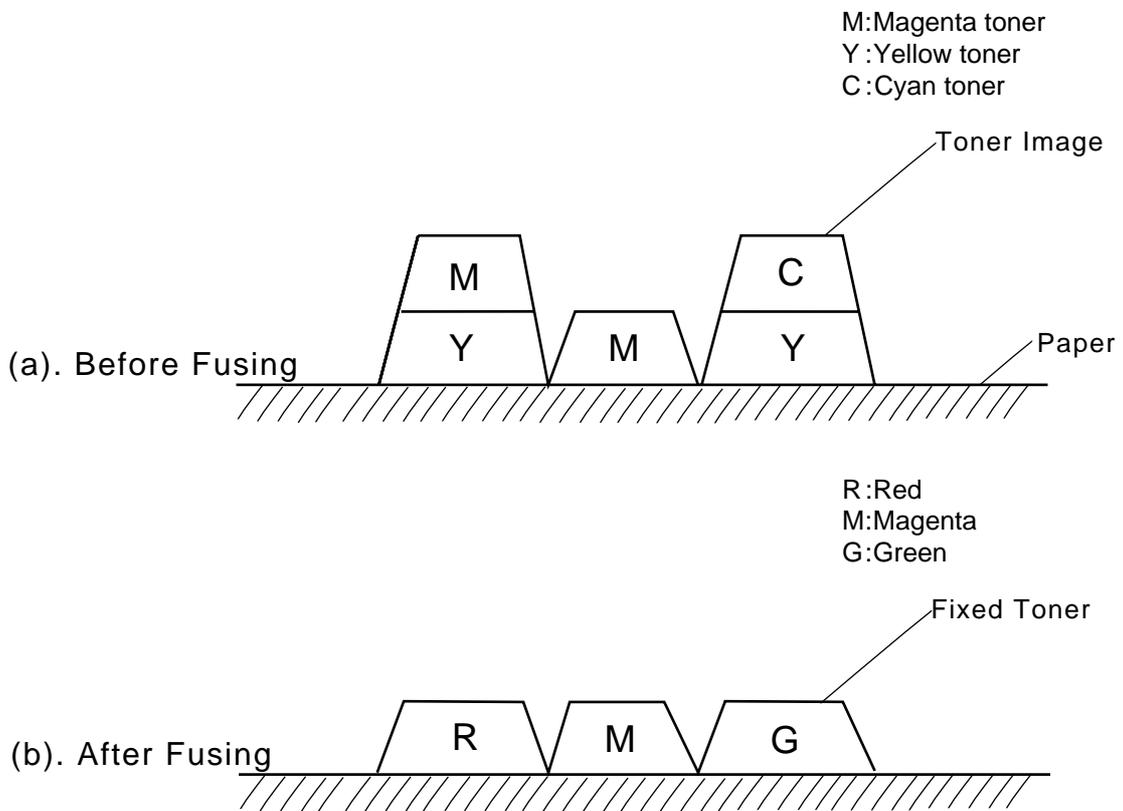

Fig.4-26
(2) Process of Fusing (Refer to Fig.4-26.)
- ① The toner image that has been transferred onto the paper is simply adhered on the paper but not fused yet.
- ② Transported paper passes between the heater roller and back-up roller.
- ③ Each roller is heated up to approx. 150°C, and received approx.200N from the opposite heat roller.
- ④ When the paper carrying the toner images passes between the two heat rollers, the toner images are melted and fused on the transported paper.
- ⑤ The paper carrying the fused image is separated from the heat rollers, and ejected from the printer.